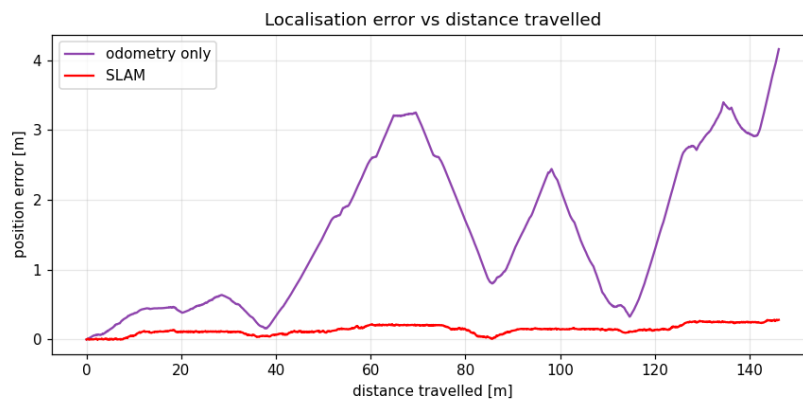

Figure 1. Position error vs distance travelled: SLAM (red) against odometry only (purple).
- **How we handle it:** damped fusion of scan matching with odometry and gyro, no scan-match correction while rotating fast, and a wall-direction heading reference. We also added wall recesses to the simulated tunnels. Result (sim): mean position error 0.14 m, max 0.28 m, while odometry alone ends 4-8 m off (Figure 1).